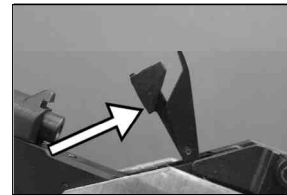

Figure 11
**Bolt:** The bolt is located on the top of this pistol directly above the grip and in front of the rear sight. The bolt must be pointed up for loading and compression of the air in the cylinder. See **Figure 11**.